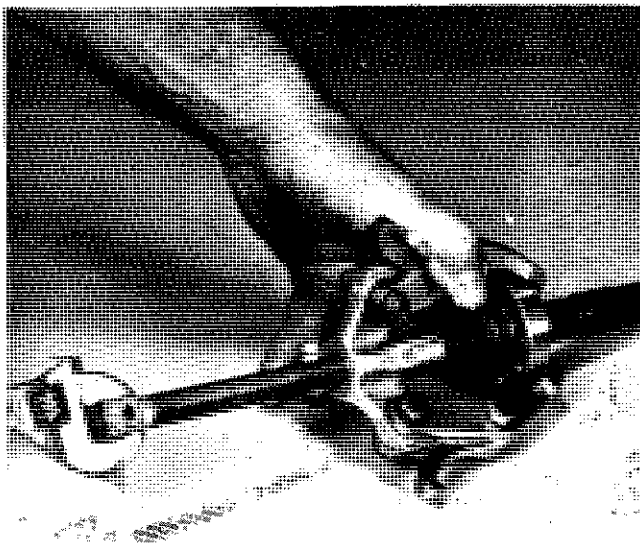

Figure VI-29. Removal of Shaft
- d. Remove bearing with a bearing puller (or arbor press, if available). Any other method of bearing removal may damage the bearing (Figure VI-29).